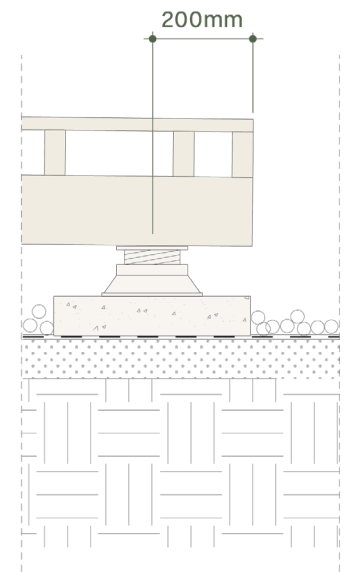

Fig. 3
- Joists must not overhang supports by more than 200 mm (see Fig. 3)